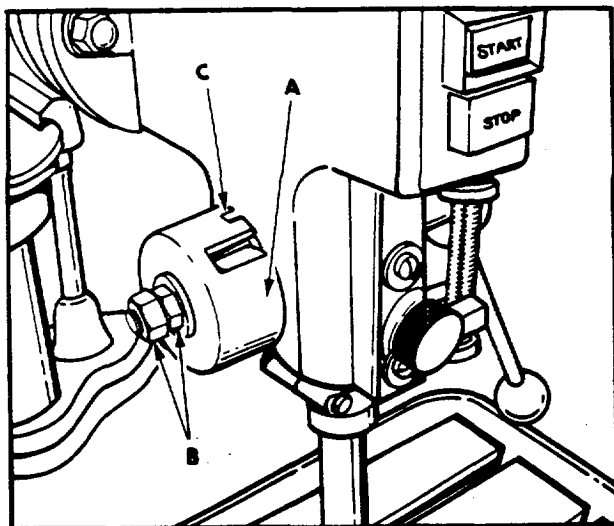

Figure 11
For the purpose of automatically returning the spindle upward after a hole has been drilled, a spring is provided enclosed in the case (A) fig. 11, and is located on the left side of the drill press head. This spring has been properly adjusted at the factory and this adjustment should not be disturbed unless absolutely necessary.
1. Back off the two nuts (B) fig. 11. NOTE: Do not remove the inside nut from the shaft. The nuts (B) should be backed off just far enough so that the spring housing (A) can be disengaged from the roll pin (C) in the head casting.
2. With a firm hold on the spring housing (A) fig. 11, disengage it from the pin (C) in the drill press head, by pulling the housing straight out, and turn the housing counterclockwise to increase or clockwise to decrease tension. Be sure the pin in the drill press head is engaged with one of the other slots in the spring housing before releasing grip.
3. Retighten the two nuts (B) fig. 11. NOTE: Do not over-tighten the inside nut against the spring housing (A) as this may cause binding of the pinion shaft.